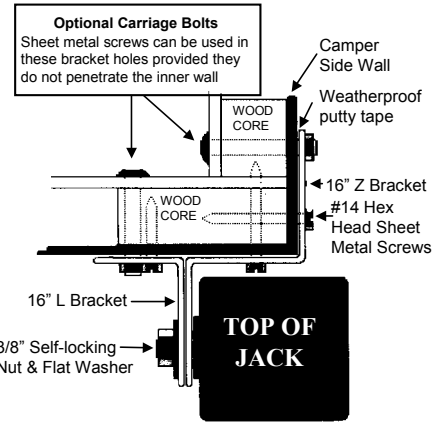

Fig. 2 - Drivers Side Front Corner (looking downward)
8. Holes 10 & 12 may be secured with a bolt as shown in fig. 2 (best when possible). If not, Sheet metal screws can be used if material exists in camper to hold screw securely.
9. Secure the L bracket to camper with #14 sheet metal screws described in step 5. Start at center and work out to ends. As with the Z bracket, bolts can be used, if possible, in the 2 larger holes (see fig. 2).
11. Mount the jack to the bracket by placing the 3/8" stud bolts on jack through holes A, D & G (fig. 1). Secure with 3/8" flat washer and self-locking nut (fig. 2).